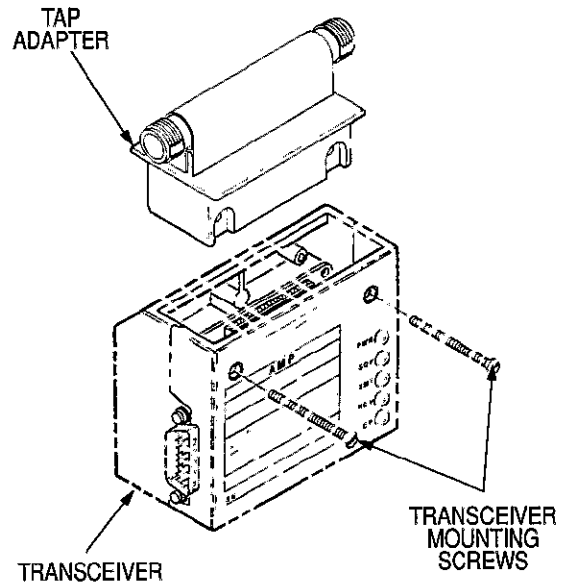

Figure 2
3. Plug the tap adapter into the transceiver. See Figure 2.